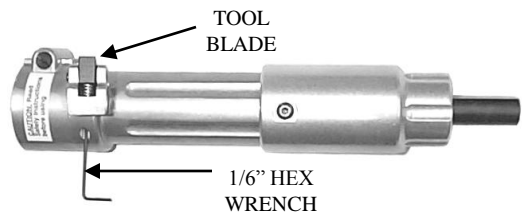

Fig. 5
Step 5. (Fig. 5) Before stripping the insulation, adjust the blade edge to 1/64"(.39mm) - 1/32"(.79mm) above the conductor surface by inserting the provided hex wrench through the hole located beneath the tool blade.